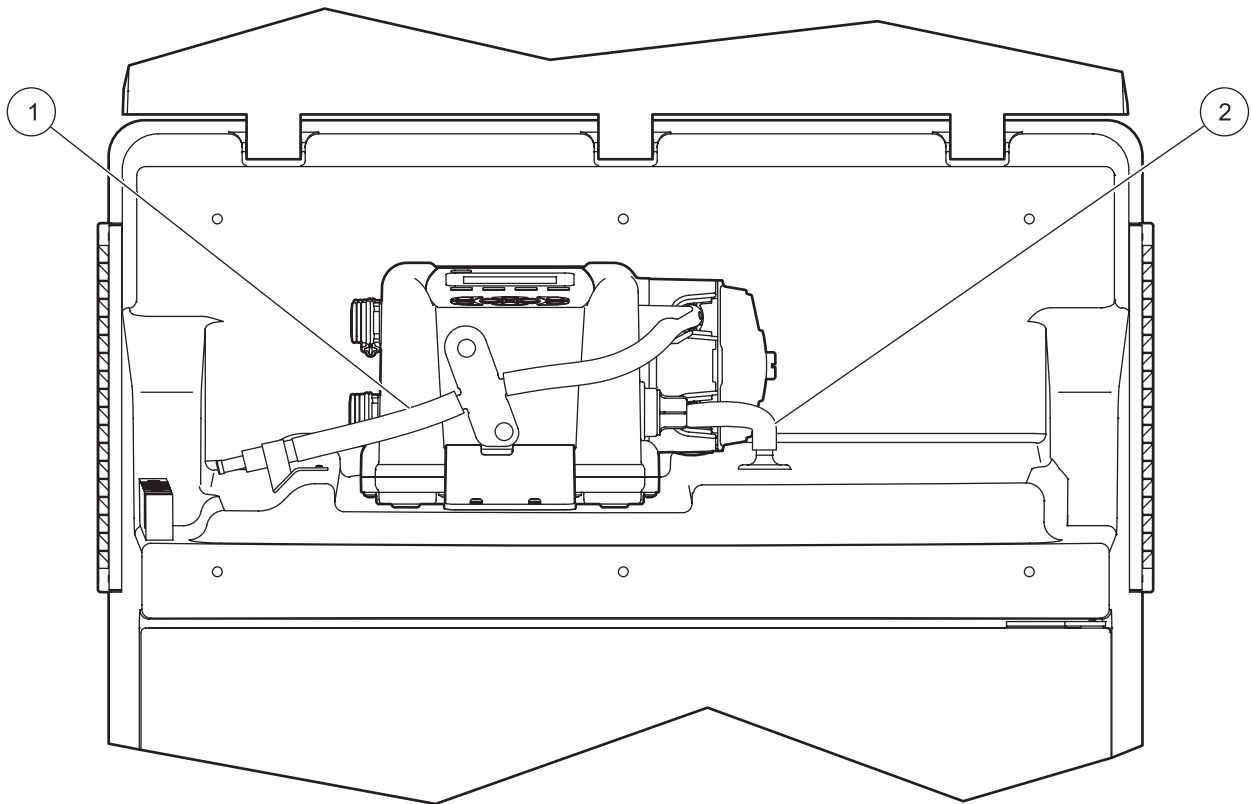

Figure 14 Tubing installation
2. Push one end of the tube on the stainless steel fitting on the AWRS cabinet (Figure 14).